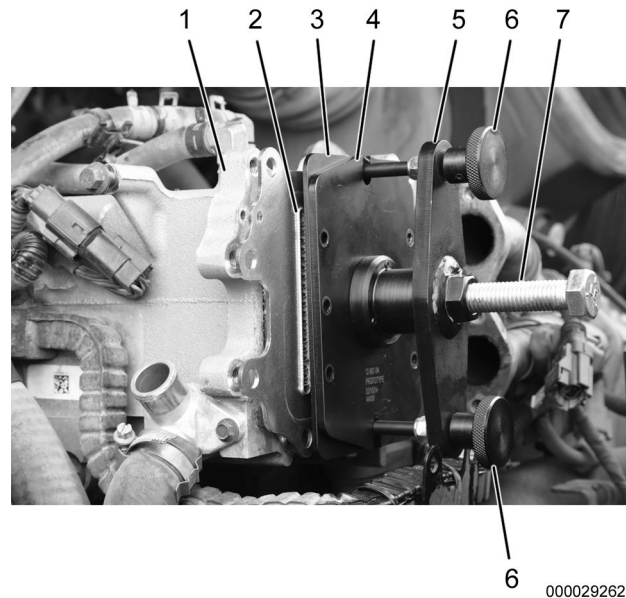

Figure 6. LT EGR Cooler Core Installation.
10. Apply anti-seize compound to threads of two thumbscrews (Figure 6, Item 6).
11. Install magnetic plate (Figure 6, Item 3) onto LT EGR core puller (Figure 6, Item 5).
12. Install LT EGR core puller (Figure 6, Item 5) onto LT EGR cooler housing (Figure 6, Item 1) with two thumbscrews (Figure 6, Item 6) hand tight.
13. Tighten LT EGR core puller removal forcing screw (Figure 6, Item 7) until removal plate (Figure 6, Item 4) is flush with LT EGR cooler core (Figure 6, Item 2).